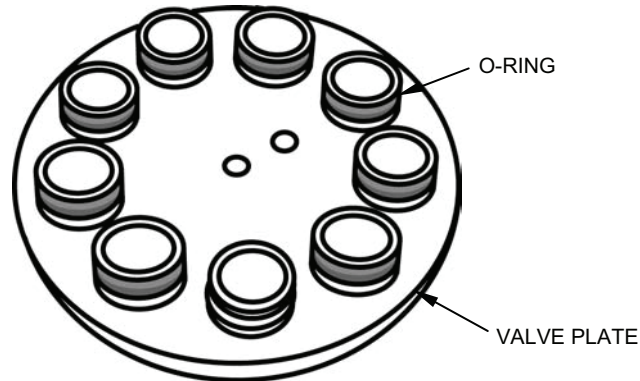

Figure 30. Valve Plate.
- a. Lightly lubricate nine new O-rings with glycerin and install them on the new valve plate (see Figure 30). The new plate comes with the backup rings already installed.